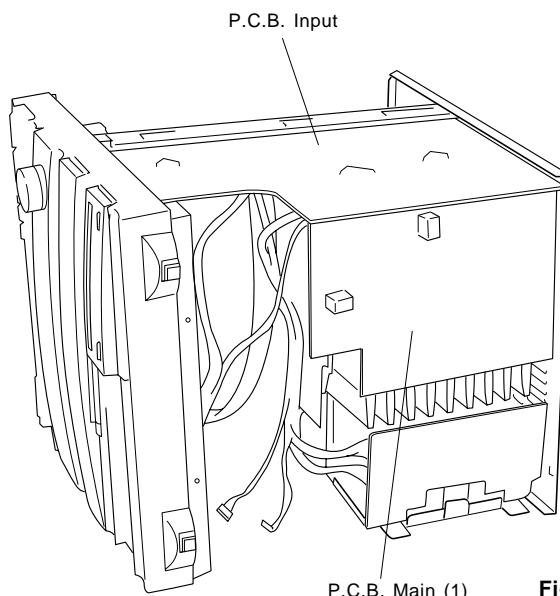

Fig. 10
- i. Place the main unit on its left side (viewed from the front) and remove the Bottom Cover in Fig. 10.
- j. Install the Panel unit to the main unit in Fig. 10.